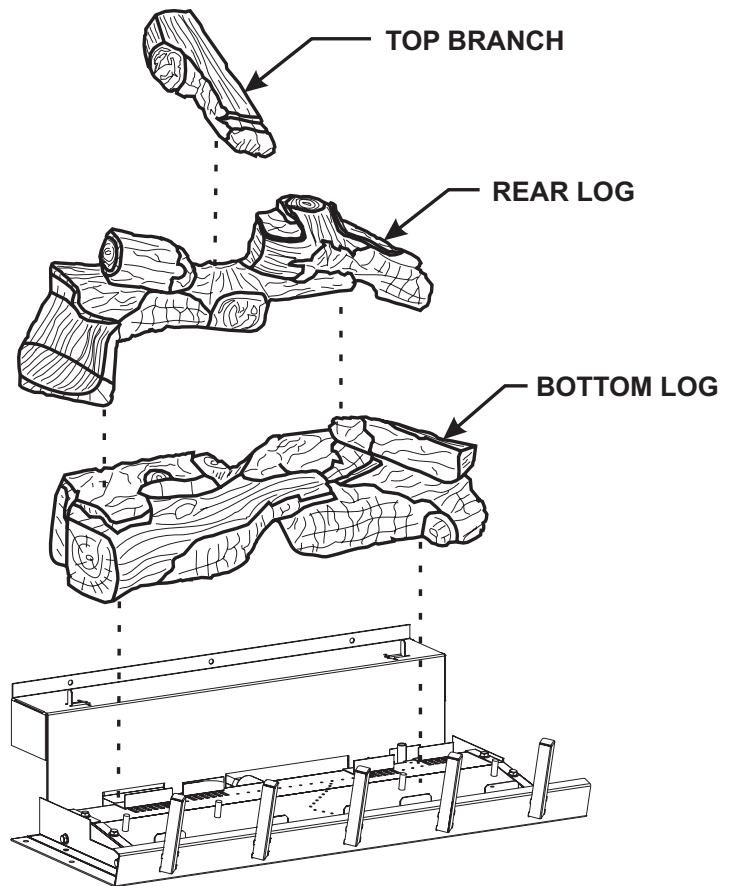
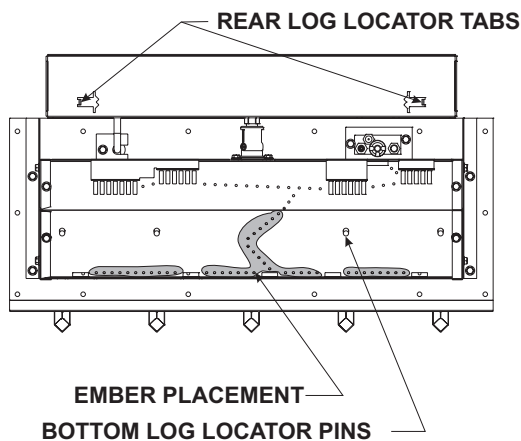

Figure 49
Figure 48A
The positioning of logs is critical to safe and clean operation of this fireplace. Sooting and other problems may result if the logs are not properly and firmly positioned in the fireplace. Please refer to **Figure 48A**, **Figure 48B**, and **Figure 49** and corresponding WARNING, when completing the following log placement steps.
8. After all logs are properly positioned, place small "dime" size pieces of Rockwool lightly across the front round "blueflame" ports. Place the ember material (Rockwool pieces) side by side. Do not stack more than one layer of embers across the burner ports. See Figure 48A.
Attention: Do not use Figure 48B or Figure 49 to order logs. Refer to parts view on page 46 and parts list on page 47 and 48 to order logs and/or ember material for your appropriate fireplace model.